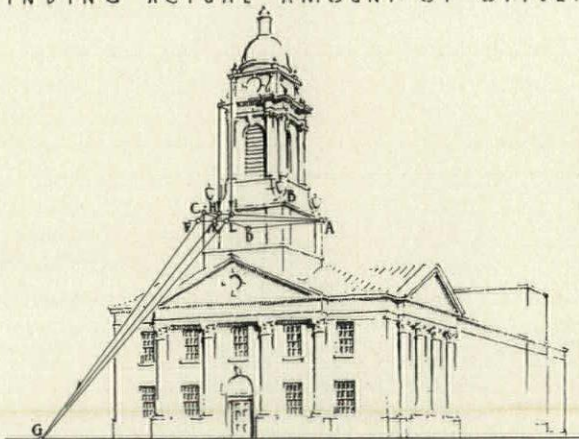

Figure 9—Finding Actual Amount of Offsets
A friend of the writer's was recently confronted with this problem: He had made a semi-freehand preliminary perspective sketch, along with preliminary plans, for a certain town hall (Fig. 9). The building committee liked the perspective all too well; the tower especially took their eye, and they said, "Those proportions are perfect—execute it just like that." This was most gratifying, but the tower had never been conceived except in perspective; only the plan dimensions of the square lower
1. *The Offsets.* In the base block, complete the horizontal square $ABCD$ (Fig. 9), and draw the diagonal AC (the long one in perspective).